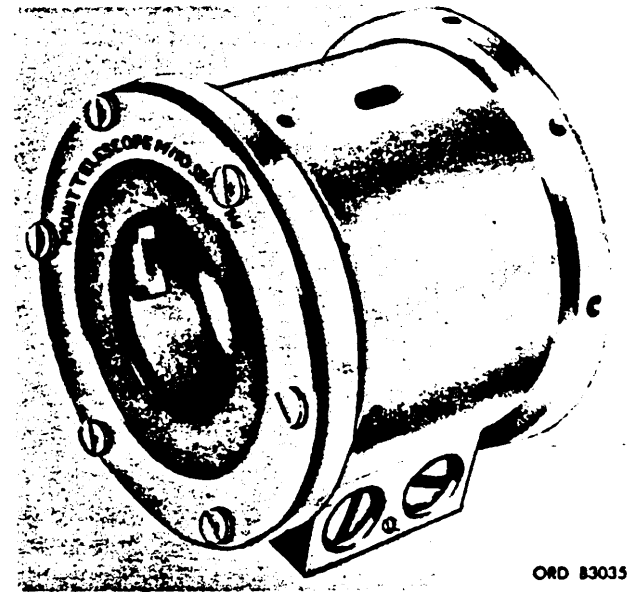

Figure 1. Telescope mount M110.
*a.* Telescope mount M110 (fig. 1) holds telescope M103 to the 90-mm rifle M67. It is designed so that the telescope can be inserted and seated rapidly and with assured replacement accuracy.